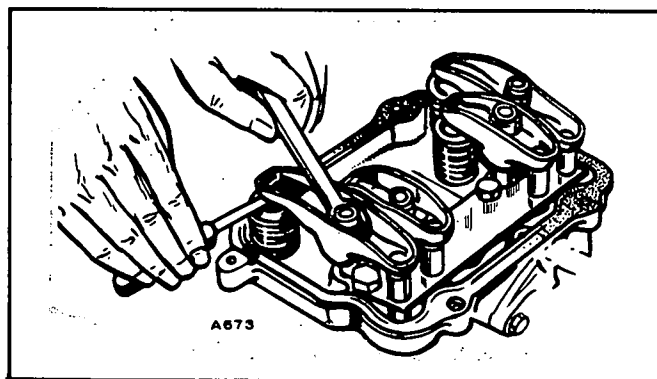
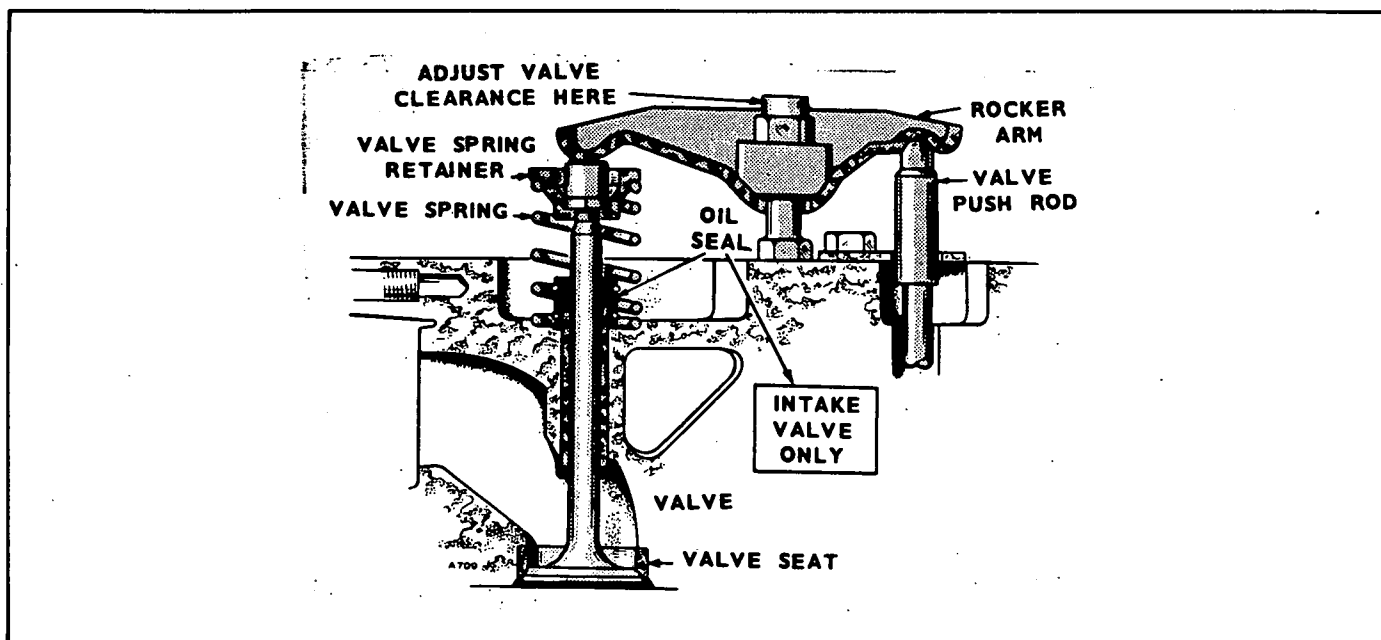

FIGURE 43. CHECKING VALVE CLEARANCE
FIGURE 44. SETTING VALVE CLEARANCE
- d. Using a feeler gauge, check the clearance between the rocker arm and the valve (see Figure 43). Increase or reduce the clearance until the proper gap is established, adjusting with the lock nut which secures the rocker arm to the cylinder head (Figure 44). Refer to table 4 for correct valve clearance setting for your particular engine.
9. Set the valve clearance. See Figure 44.